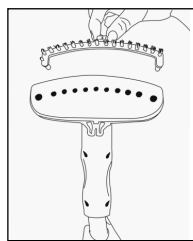

fig. 3
1. Align the pegs of fabric brush alongside the holes on the steam Nozzle. See fig 3.